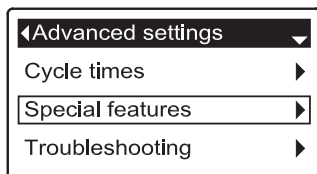

FIG. 134
3. Press the SELECT (O) button to display the Advanced settings menu (See Figure 134).